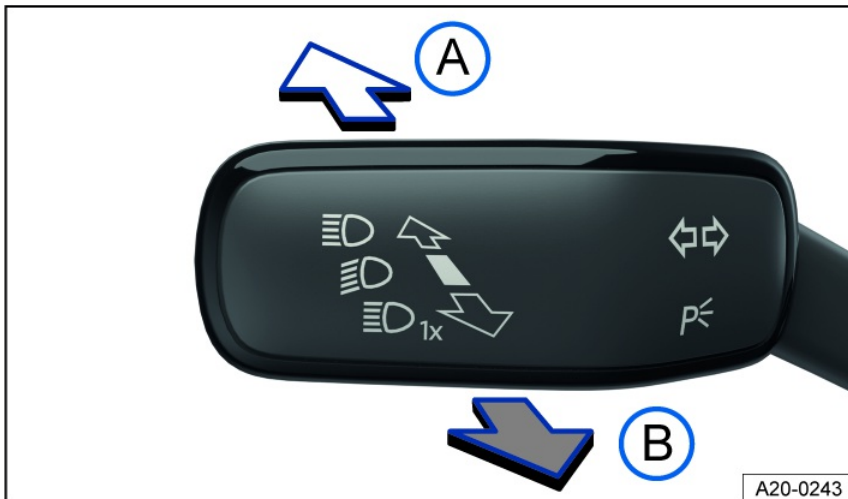

Fig. 92 On the left side of the steering column: turn signal and high beam lever.
2. Press the turn signal and high beam lever forward out of the center position *fig. 92*.
1. Pull the turn signal and high beam lever backward out of the center position *fig. 92*.
1. Pull the turn signal and high beam lever backward out of the center position and hold it *fig. 92*.